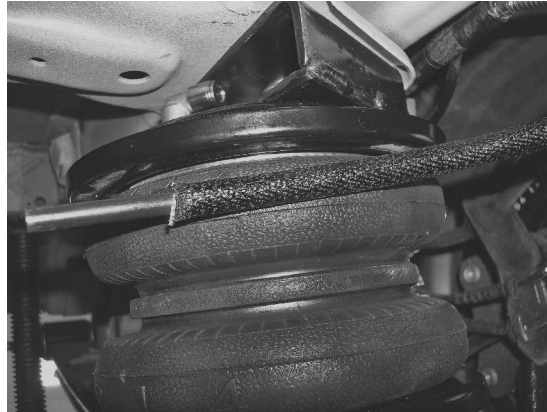

fig. E.1
1. On the driver's side hose installation, insert the hose into the hose heat shield, leaving two inches of hose past the shield at this point (Fig. E.1). Once the hose is routed and the valve is installed, trim to length, leaving a little slack, and insert the hose into the fitting at the top of the air spring assembly on the driver side. Once inserted, push the hose heat shield up to the fitting, making sure to completely cover the hose.